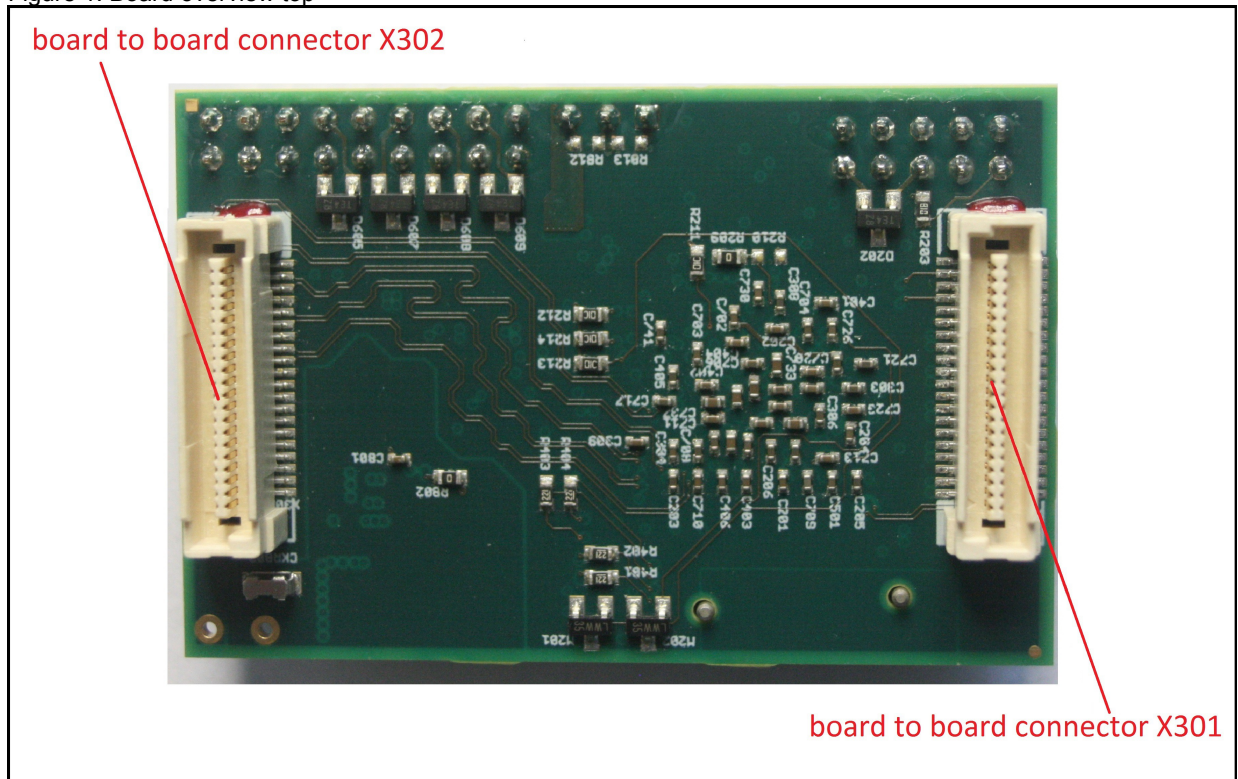

Figure 2: Board overview bottom
1. Connect power to X302 (figure 2, ../documentation/hardware/schematic/AX_SPU_schematic.pdf) and connect the JTAG programmer to the board